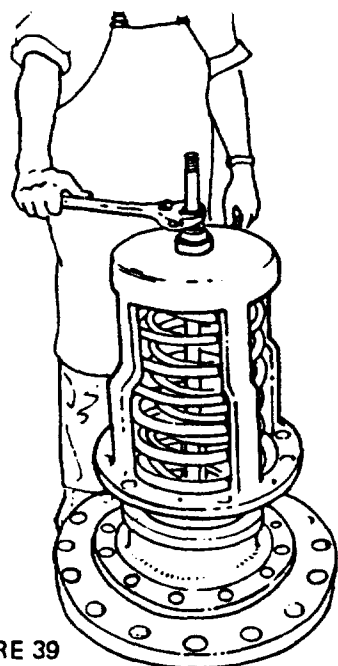

FIGURE 39
- d. Tighten down the nut to compress the spring enough to allow the spring retainer to be fastened to the seat with the 4 spring retainer cap screws (4). Avoid contact of spring with legs of spring retainer, as damage to plastic coating of spring may result (Figs. 39 and 40).